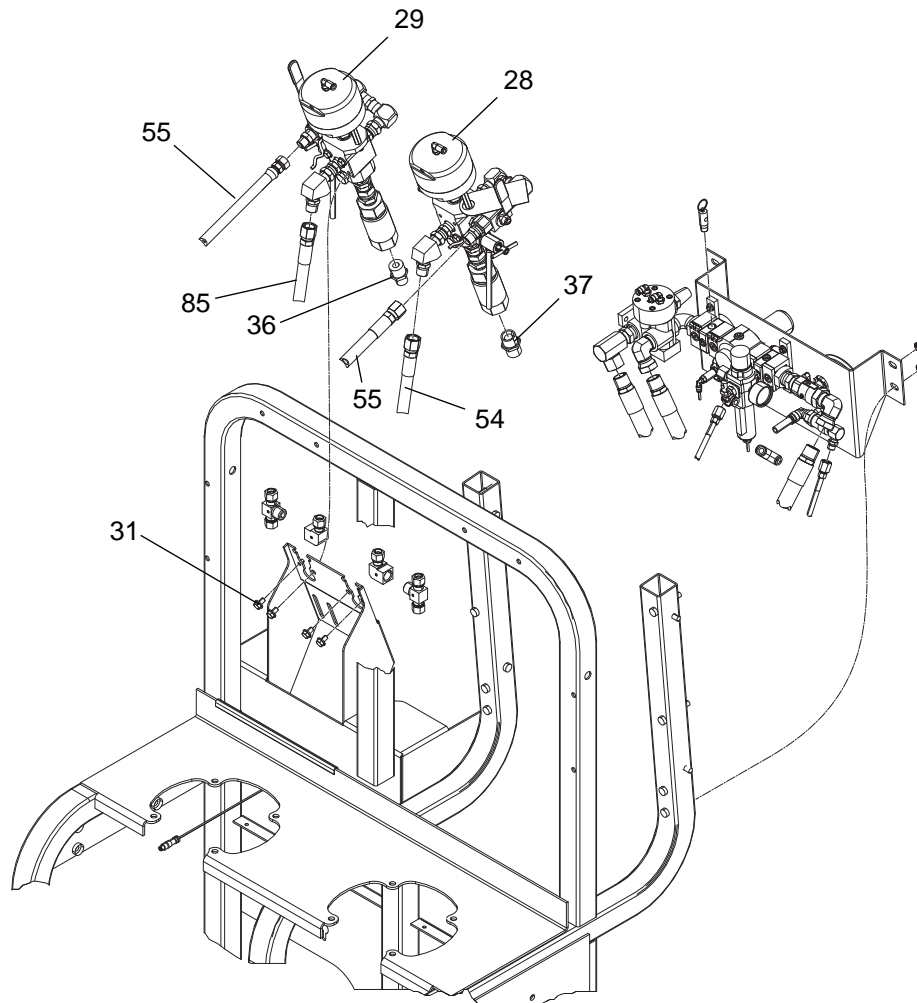

FIG. 6
2. Disconnect all fluid lines from dosing valves (28 or 29). See FIG. 6.
3. Remove two bolts (31) securing dosing valve to bracket.
5. Disconnect pressure sensor (831) from dosing valve. See page 74.